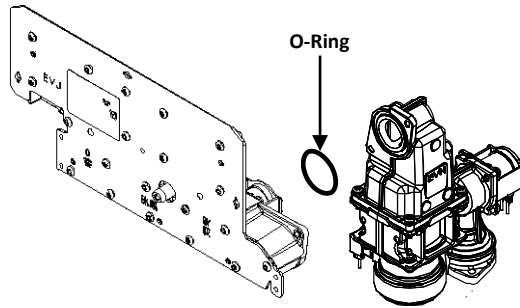

FIGURE 4
- 9) Locate the black O-rings on the gas valve as indicated in Figure 4. If torn or damaged, remove and replace O-ring with the new O-ring supplied in the conversion kit. Discard the old O-ring.